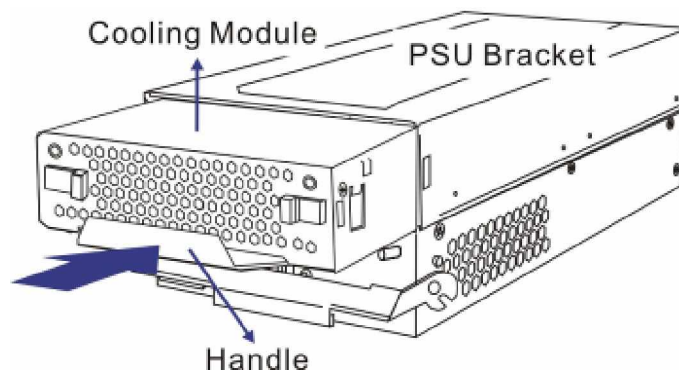

Figure 5-19: Installing the Cooling Module
Step 3. Install the new cooling module by aligning the module with the cooling module slot on the top of the PSU bracket and gently sliding it in. The latches will hold the module in place. (See **Figure 5-19**)